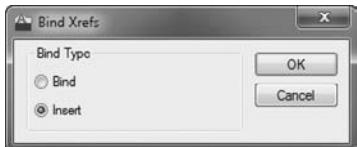

FIGURE 13.36 The Bind Xrefs dialog box
2. Choose Bind from the context menu to open the Bind Xrefs dialog box (see Figure 13.36).